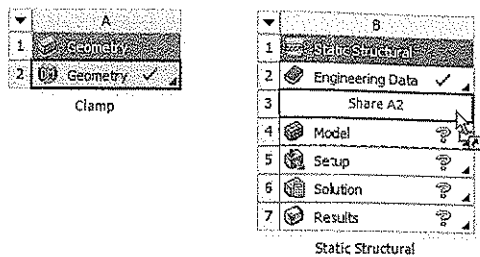

Figure 6-11 Sharing the geometry with the **Geometry** cell of the **Static Structural** analysis system
- 3. Drag and drop the **Geometry** cell from the **Clamp** component system to the **Geometry** cell of the **Static Structural** analysis system, refer to Figure 6-11; the geometry is shared.